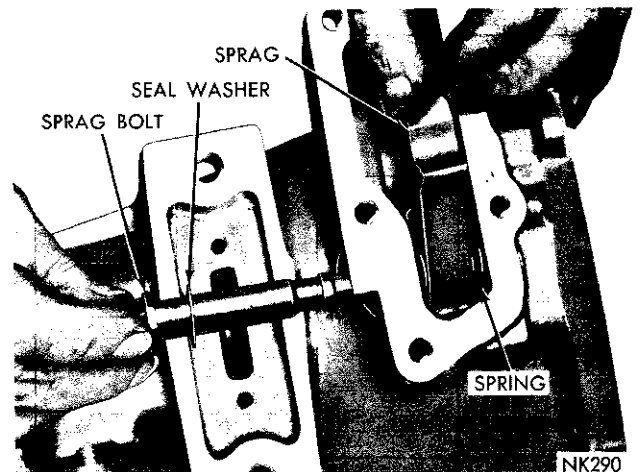

Fig. 47—Removing or Installing Parking Sprag
(5) Slide the bolt out of the housing to remove the parking sprag and spring (Fig. 47).
- (1) Position the sprag and spring in the housing and insert the bolt (Fig. 47). Make sure the square lug on the sprag is toward the gear and the spring is positioned so as to lift the sprag away from the parking gear.